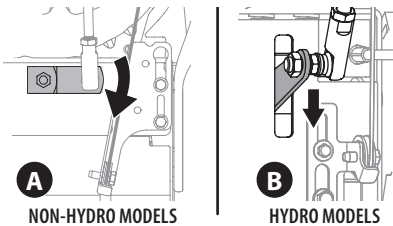

Figure 57
3. Make sure the shift lever on the back of the transmission is rotated downward to the full extent of its rotation. See Figure 57, Detail "A" for models without hydro transmission or Detail "B" for models with hydro transmission.